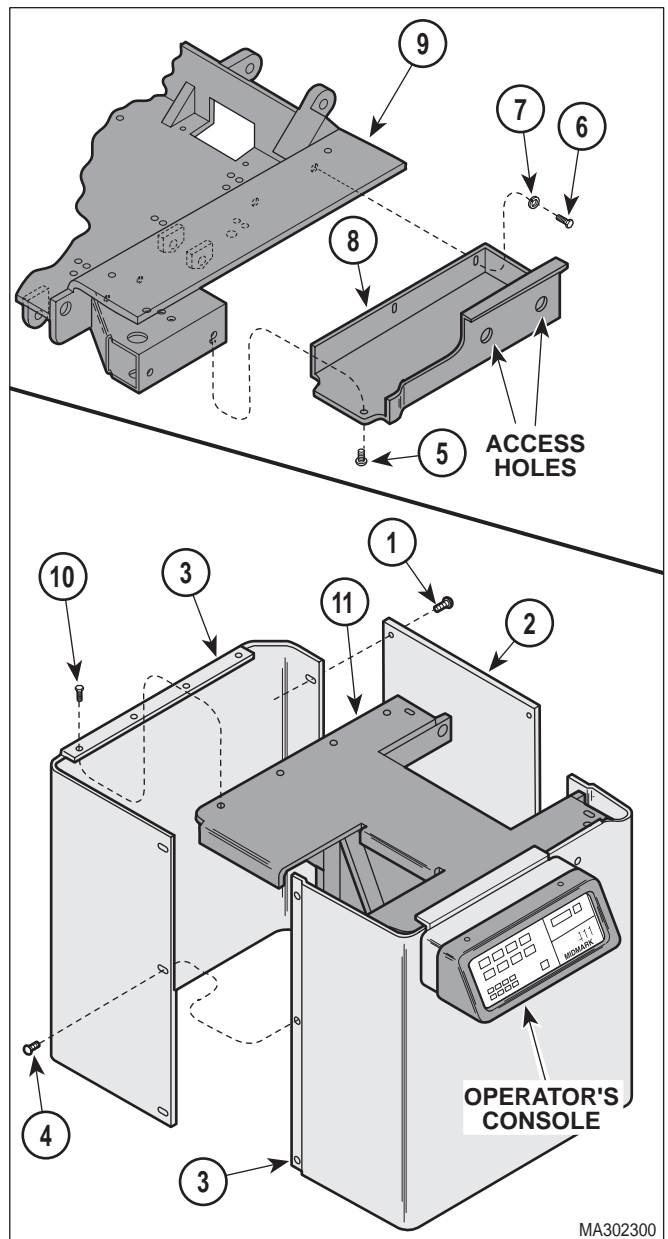

Figure 4-2. Shrouds Removal / Installation
- (2) Unplug table power cord from wall outlet.
- (3) Remove six screws (1, Figure 4-2) and cover (2) from R.H. and L.H. shrouds (3).
- (4) Remove three screws (4) securing R.H. and L.H. shrouds (3) together.